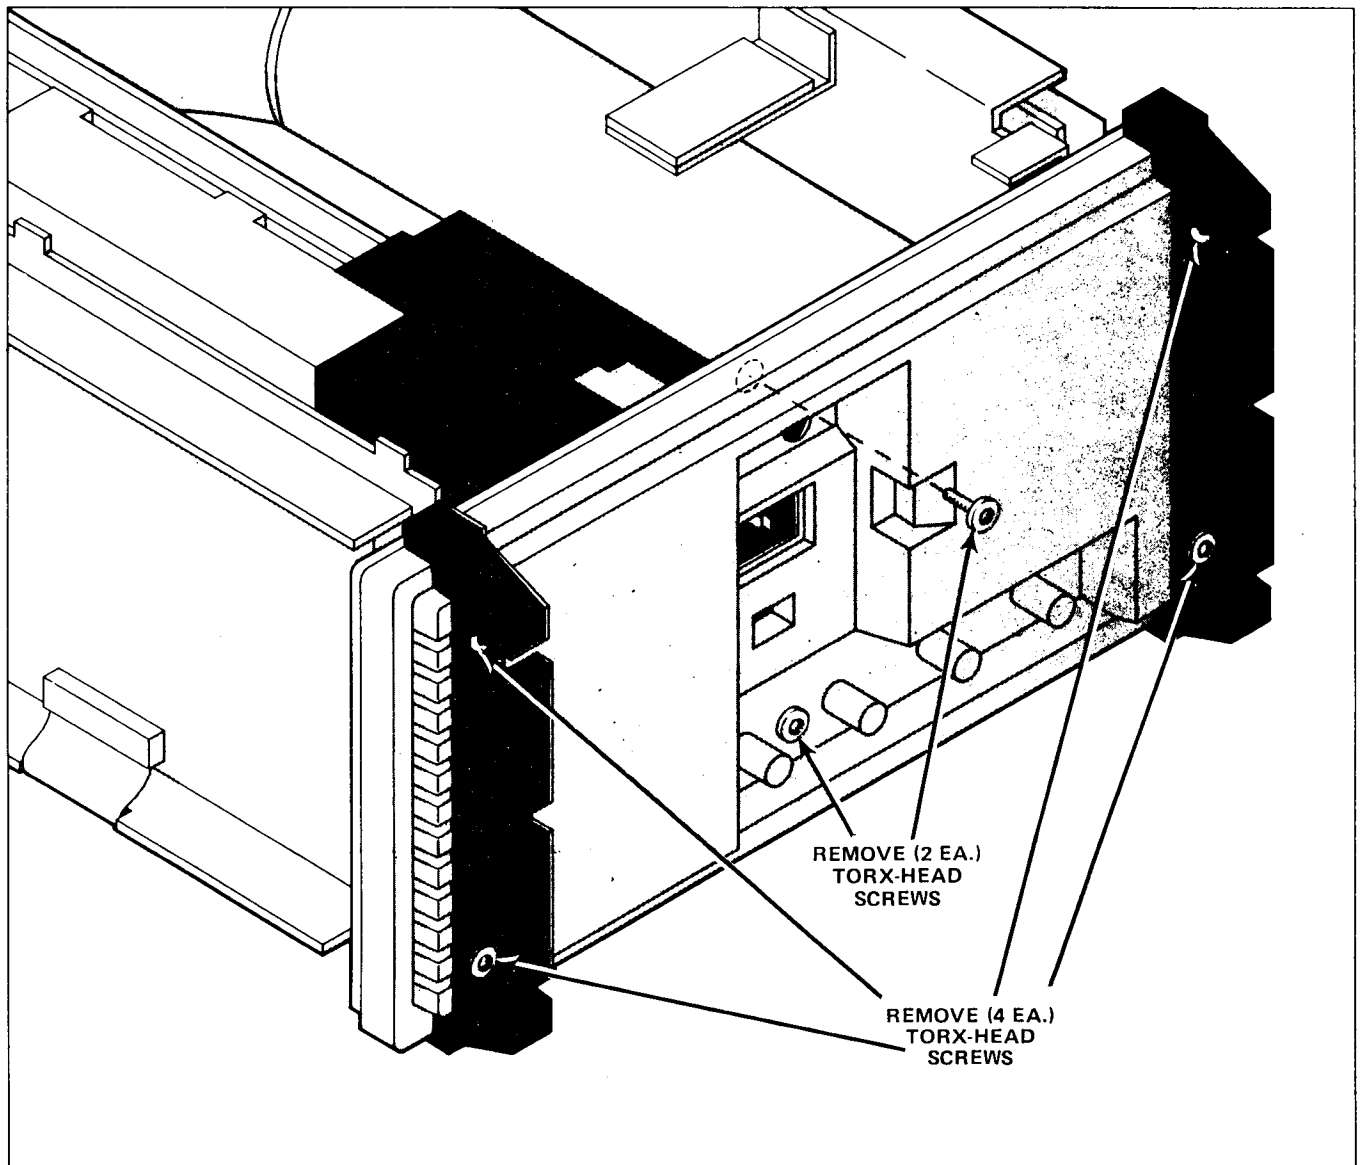

Fig. 1. Locations of Screws on Rear Panel.
- () d. Remove the four screws in the rear panel feet. Refer to Fig. 1.
- () e. Remove the two screws from the top, center and bottom, center of the rear panel. Refer to Fig. 1.